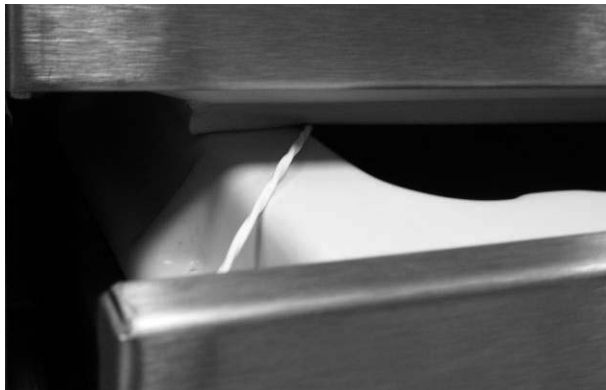

FIGURE 9
9. Simply insert the Product Probe into the hot product pan, in solid food pierce the product in the center making sure the probe does not touch the pan or interferes with the pan cover. In liquid foods place the probe in the center of the pan the Product Probe meets FDA and NSF standards for food contact materials. The Product Probe wire will slide easily between the insulated insert and the Evaporator Lid assembly gasket. (see **Figure 9**)